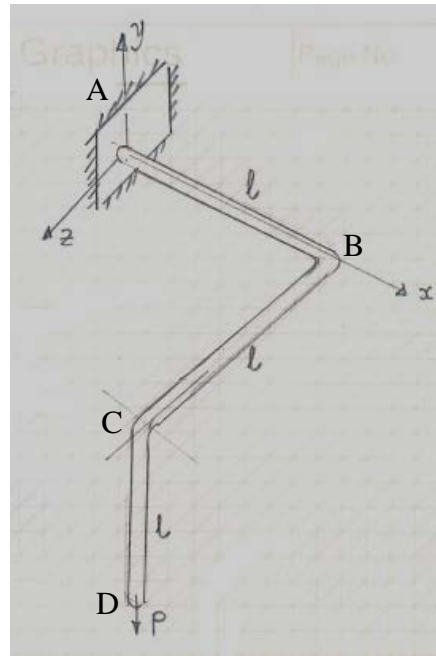

Fig. 4
4. A solid circular bar bent 90° at two points (B and C) is built-in at one end (A) as shown in Fig. 4. A vertical (y direction) force P acts at the free end D. Obtain the expression for the vertical deflection at D using energy method. Neglect the effect of shear deformations. Given: diameter of bar - d , elastic modulus - E and shear modulus - G .